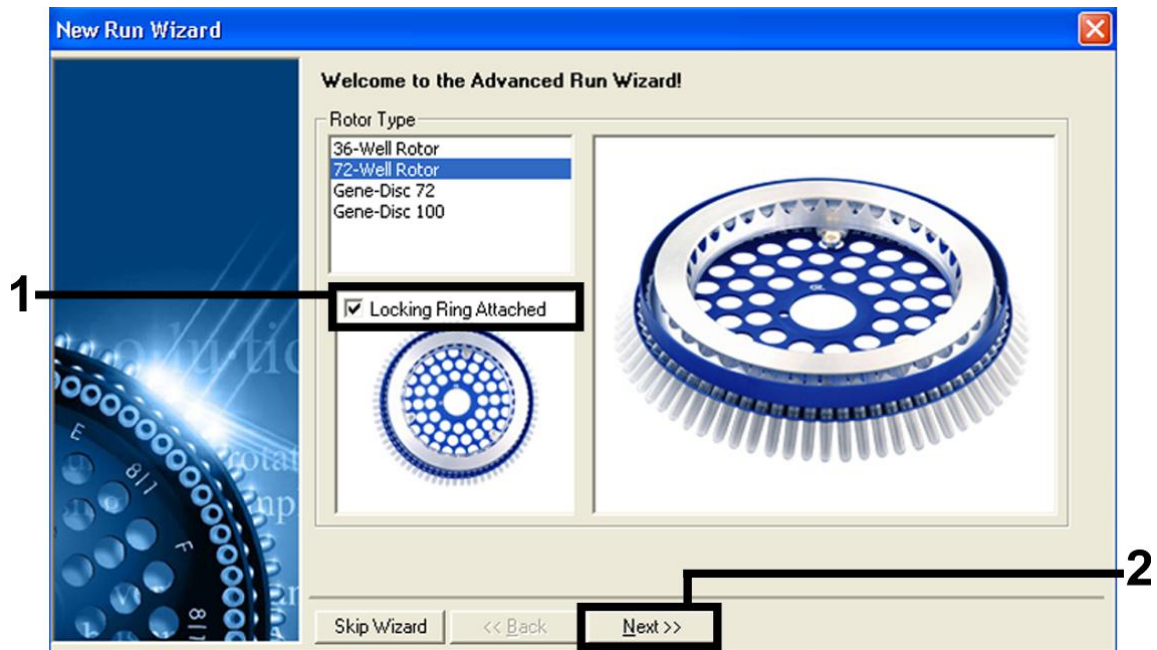

Figure 5. The “New Run Wizard” dialog box.
Setting the general assay parameters	Figures 5–7
4. First, open the “New Run Wizard” dialog box (Figure 5). Check the “Locking Ring Attached” box and click “Next”.